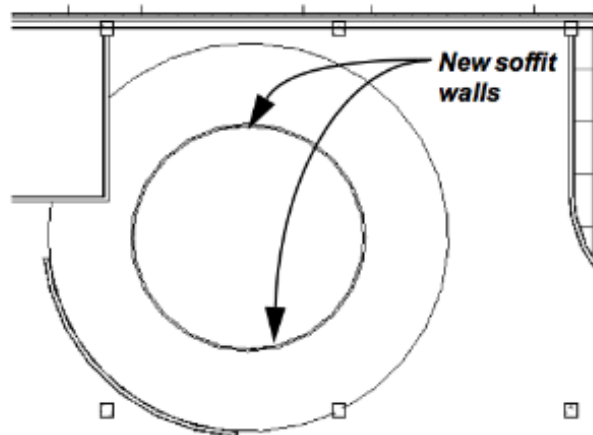

Figure 10–22
7. In the *Modify | Place Wall* tab>Draw panel, click  (Pick Lines) and select the inside hole of the ceiling, as shown in Figure 10–22.